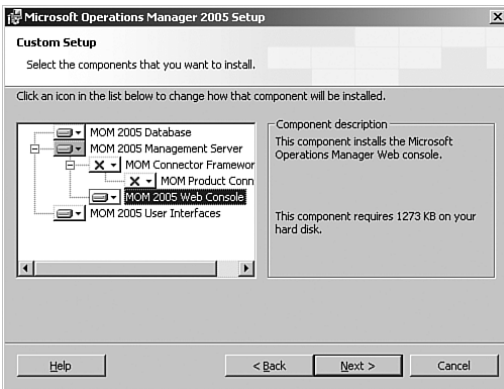

FIGURE 6.17 Specify the MOM 2005 Web console component.
2. At the Custom setup screen, make sure that for the MOM 2005 Management Server the MOM 2005 Web console is selected, as shown in Figure 6.17.